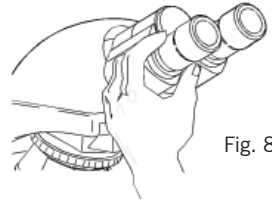

Fig. 8
- **Diopter adjustment (Fig.8)**